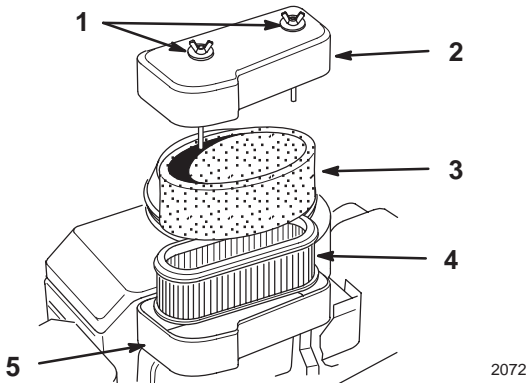

Figure 15
2. Clean around the air cleaner to prevent dirt from getting into the engine and causing damage. Unscrew the cover nuts and remove the air cleaner cover (Fig. 15).
3. Remove the air cleaner assembly (Fig. 15).
4. Carefully slide the foam element off the paper element (Fig. 15).
1. Carefully slide the foam element onto the paper air cleaner element (Fig. 15).
2. Place the air cleaner assembly onto the air cleaner base (Fig. 15).
3. Install the air cleaner cover and secure with cover nuts (Fig. 15).